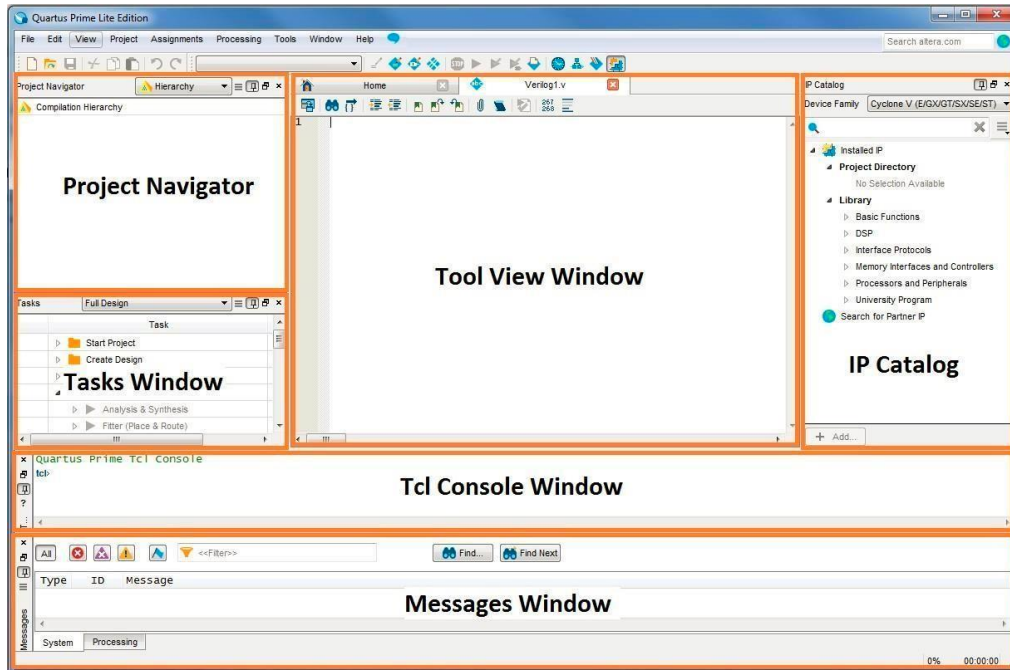

Fig. 1.5 Quartus Prime Project Window
- You should now see something similar to Fig. 1.5. (The Tool View Window may just have a gray Quartus Prime screen). Some windows may not be shown by default. To customize what windows are shown, click on the **View** tab and look under the **Utility Windows** drop down